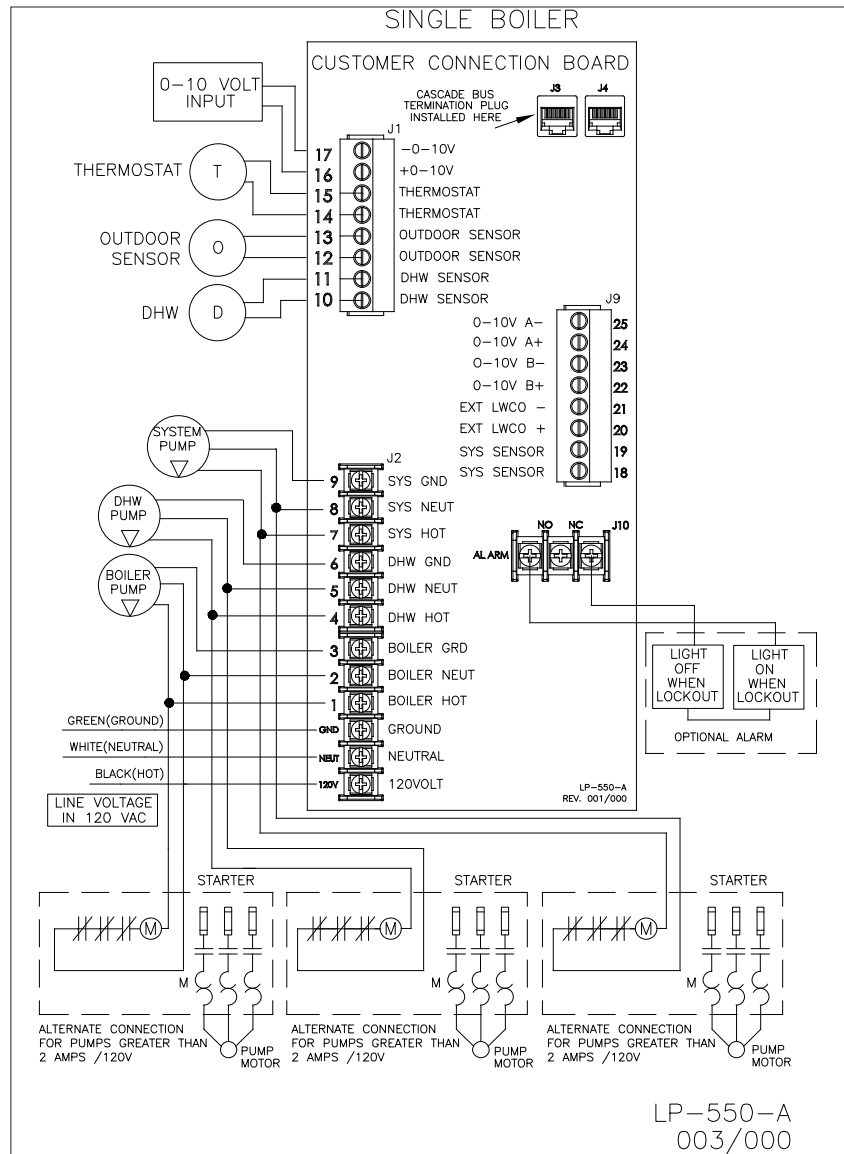

Figure 24 - Control Wiring
NOTE: A termination plug is included in the CAT 3 / CAT 5 Bus Connection Point, labeled J3 in Figure 24. DO NOT REMOVE THIS PLUG! Doing so will affect boiler operation and void warranty.
1. Connect 120V / 60Hz / 15 AMP incoming power wiring to the line voltage terminal strip in the electrical junction box at terminals 120V, Neutral, Ground (shown in Figure 24).
3. Connect the boiler pump as shown in Figure 24 to the terminals marked 1 – (HOT), 2 – (NEUT), and 3 – (GND). The connections shown are suitable for a maximum continuous pump draw of 2 amps at 120 volts. If the pump requires more current or voltage than the 120 volts supplied, an external motor starter or contactor will be required.
The control includes a dry contact alarm output. This is an SPDT circuit, rated at 5 amps at 120 volts. This contact can be used to activate an alarm light or bell or notify a building management system if the boiler goes into a lockout condition. The circuit between the ALARM COM and NC terminals is closed during normal operation and the circuit between ALARM COM and NO is open during normal operation. The connections depicted in Figure 24 show two 120 volt lights connected to the alarm terminals. One light will be on when the boiler is in normal mode and the other light will be on when the boiler is in lockout mode.
1. Connect the room thermostat to the terminals marked THERMOSTAT in the electrical junction box (see Figures 24 and 26). Alternately, any dry contact closure across these terminals will cause the boiler to run. Take caution to ensure neither of the terminals becomes connected to ground.
2. Connect the indirect sensor (7250P-325) to the terminals marked DHW SENSOR (shown in Figures 24 and 26) in the electrical junction box.
2. Connect a building management system or other auxiliary control signal to the terminals marked 16, 0-10 VOLT + and 17, 0-10 VOLT - in the electrical junction box (shown in Figure 24). Caution should be used to ensure that the 0-10 VOLT + connection does not become connected to ground.
1. Connect the boiler pump as shown in Figure 24 to the terminals marked 1 – (HOT), 2 – (NEUT), and 3 – (GND). The connections shown are suitable for a maximum continuous pump draw of 2 amps at 120 volts. If the pump requires more current or voltage than the 120 volts supplied, an external motor starter or contactor will be required.